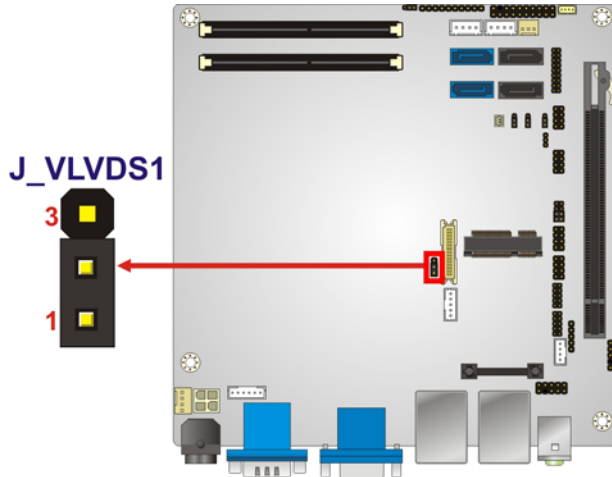

Figure 4-9: LVDS Voltage Selection Jumper Pinout Locations
- Jumper Location:** See **Figure 4-9**
The LVDS Voltage Selection jumper location is shown in **Figure 4-9**.